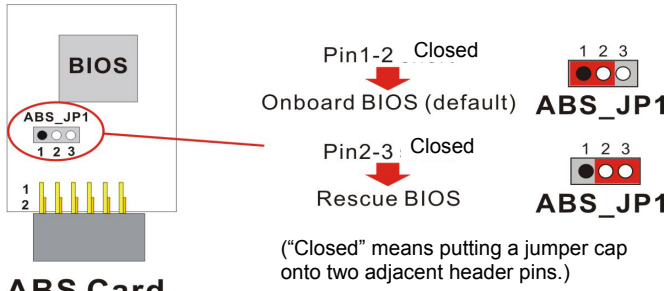

Figure 1
2. Set the jumper cap on the ABS_JP1 header located on the ABS Card to the "Rescue BIOS" position (figure 1).